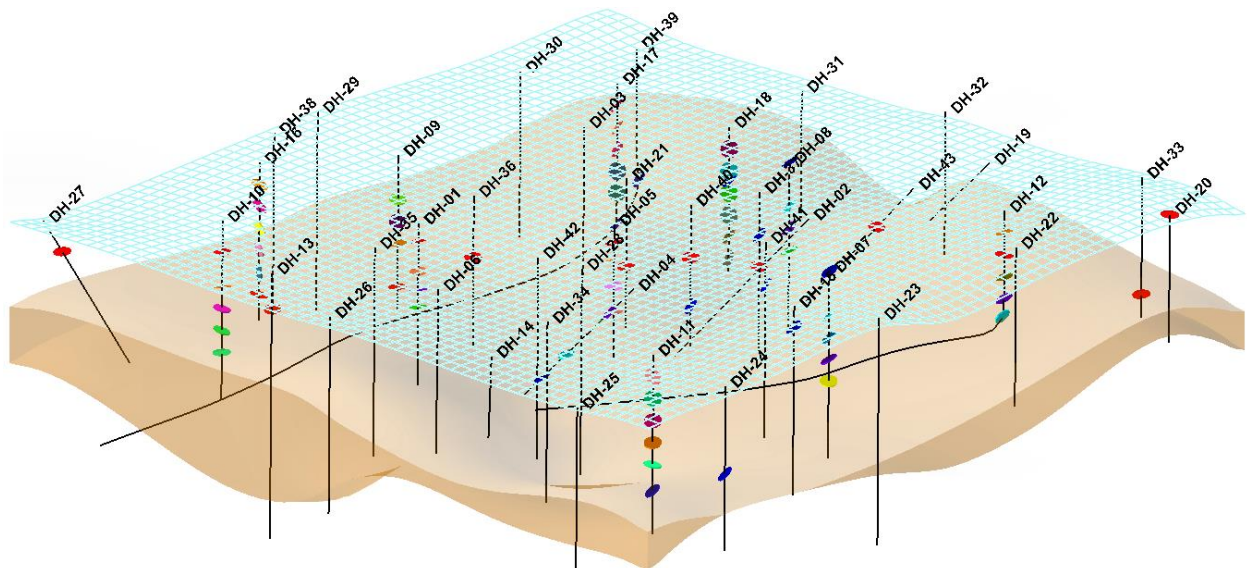

Figure 10
- The last-used log layout will be used when creating other diagrams that display 3D striplogs such as the stratigraphic modeling (Figure 10).